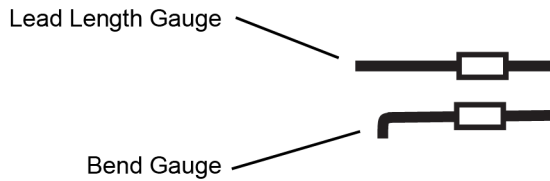

Figure 65 Trim Gauge
- a Place a resistor over the lead length gauge shown in **Figure 65**. Trim the leads to match the drawing. The orientation of the lead is not important.